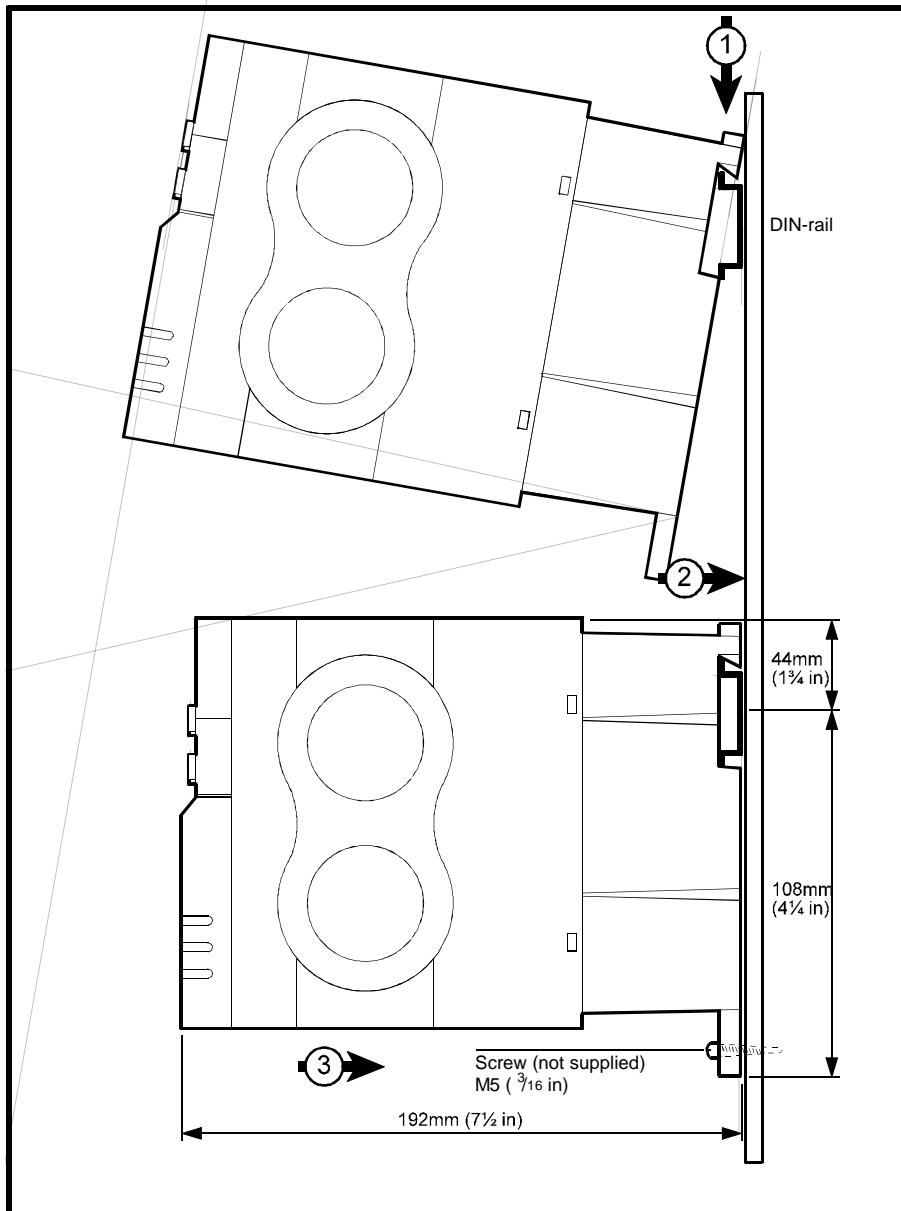

Fig. 4.8 DIN rail mounting the drive
6. Locate the drive on the DIN rail as indicated in Fig. 4.8 above.